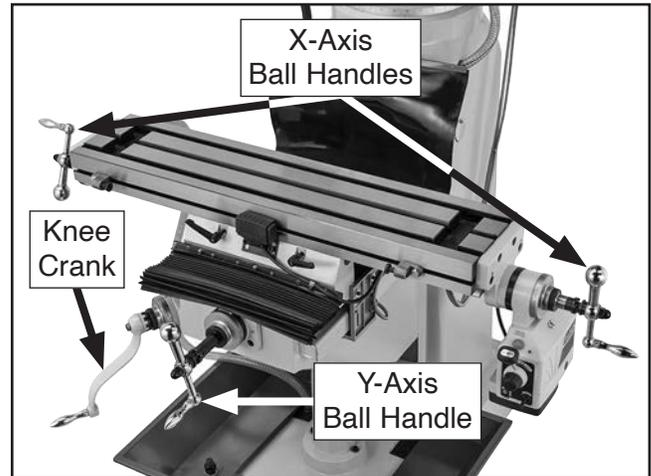

Figure 16. Ball handles and knee crank installed.
1. Remove acorn nuts and flat washers from X- and Y-axis leadscrews (see **Figure 16**), slide ball handles onto leadscrews, and secure with flat washers and acorn nuts.
2. Slide knee crank (see **Figure 16**) off of Z-axis leadscrew, turn around so handle is facing forward, and slide crank back onto Z-axis leadscrew.